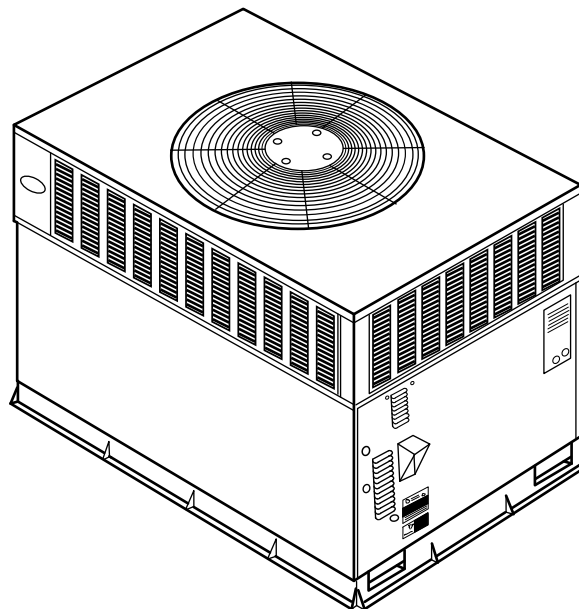

Fig. 1 — Unit 48GP with Standard Louvered Grille
2. Remove burner access panel. See Fig. 1